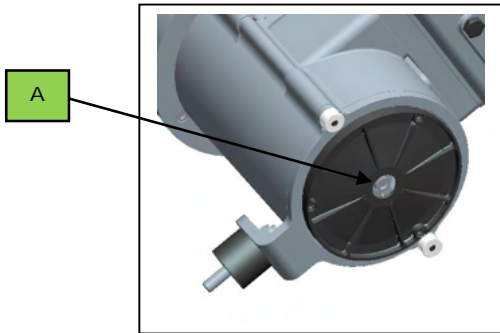

Fig. 33
**Third step:** unscrew the bottom screw in the lower part of the device (Fig.33/A) until the end of the screws working range.